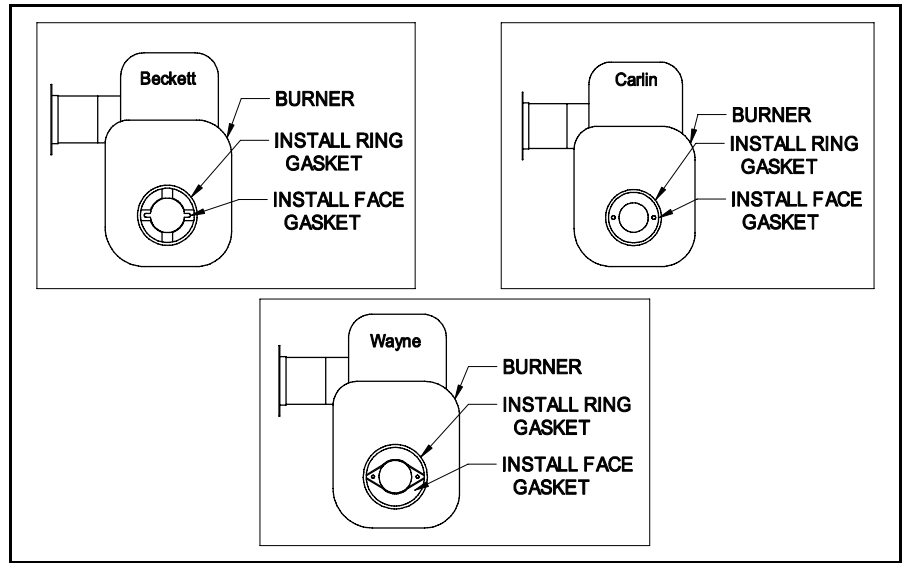
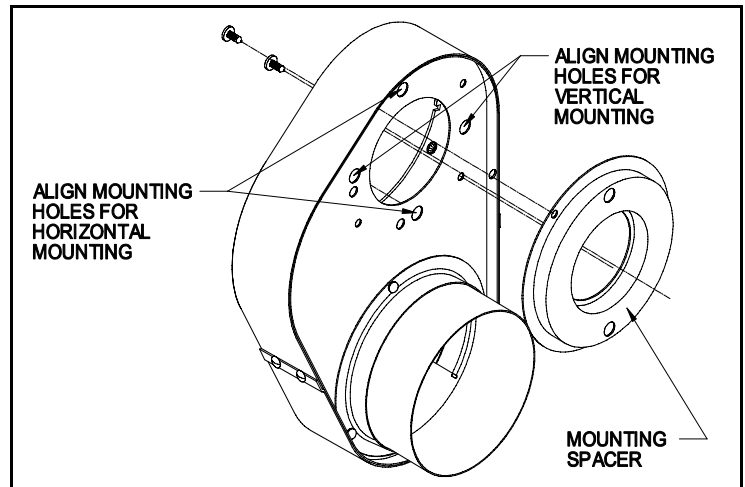

Figure 1
Figure 2
1. Remove the oil pump and air bands from the burner housing. Install the sealing gaskets onto the burner housing. Failure to install the ring gasket onto the burner housing will result in unlevel boot, noisy operation, and improper CO² readings. (See Figure 1) Install mounting spacer onto Air Boot™. (See Figure 2) Position the Air Boot™ over the burner housing on the intake. The Air Boot™ can be mounted onto the burner in a horizontal or vertical position. Install mounting spacer onto Air Boot™. Align the holes in the